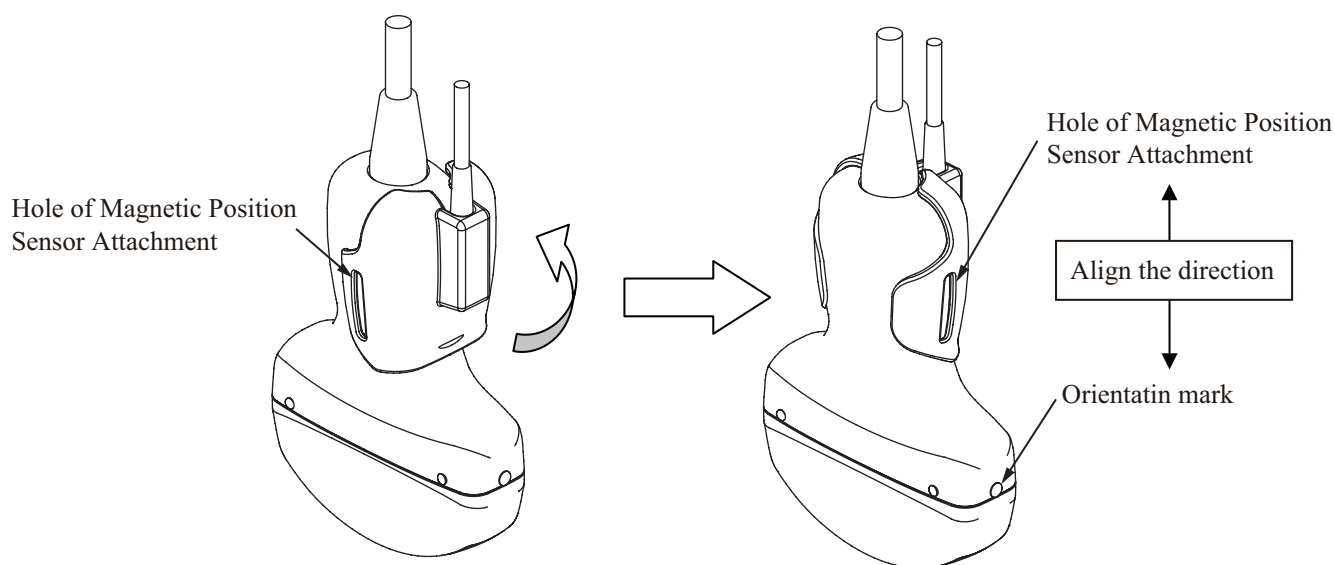

Figure 4 How to attach Magnetic Position Sensor Attachment
- (2) Attach the magnetic position sensor attachment to the probe by turning it anti-clockwise as shown in Figure 4. Please confirm that the hole of the attachment and the orientation mark of the probe are aligned in the same direction.